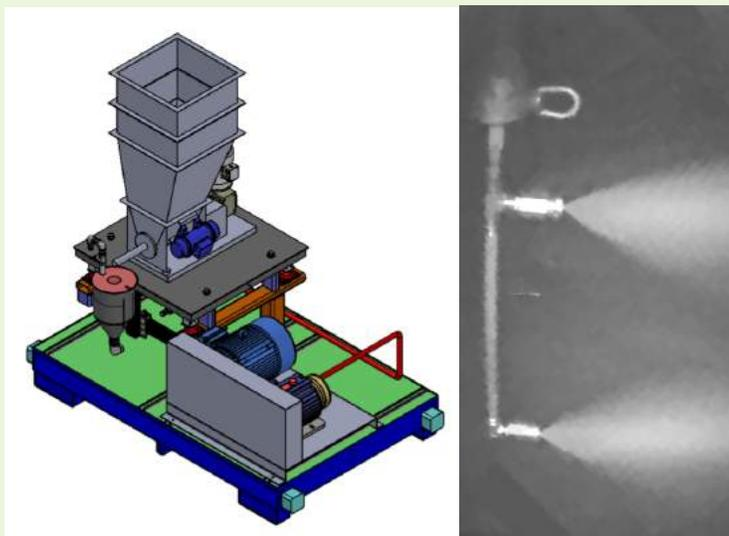

Figure 4: Both the Flow Bench and wind tunnel are used to calibrate a variety of velocity probes.
Finally, the Flow Bench can be used to calibrate probes. Airflow Sciences technicians calibrate different probes, including S-type pitot probes, 3D velocity probes, vane and thermal anemometers, and Particulate Matter (PM) Emission cyclones, in a wind tunnel (Figure 4). However, when the calibration at low flow rates is critical, the Flow Bench is used in conjunction with the wind tunnel. Both laboratory facilities provide NIST traceable calibration reports.